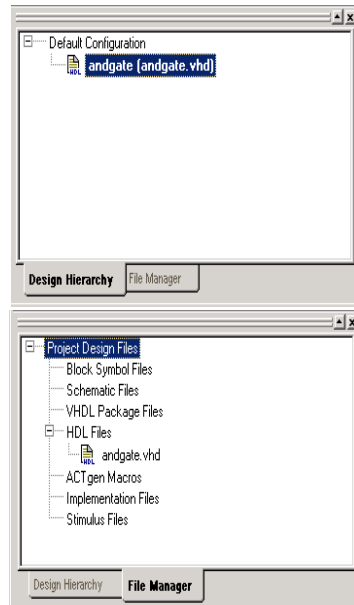

Figure 2-7. Design Hierarchy and File Manager Tabs
3. From the **File** menu, click **Save**. The design file “andgate” appears in the **Design Hierarchy**. Libero IDE lists “andgate.vhd” under HDL files in the **File Manager**, as shown in Figure 2-7.